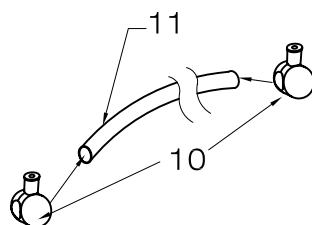

FIG. 2
2. Slide door stoppers (10) to the structural rail (11) - see FIG. 2.